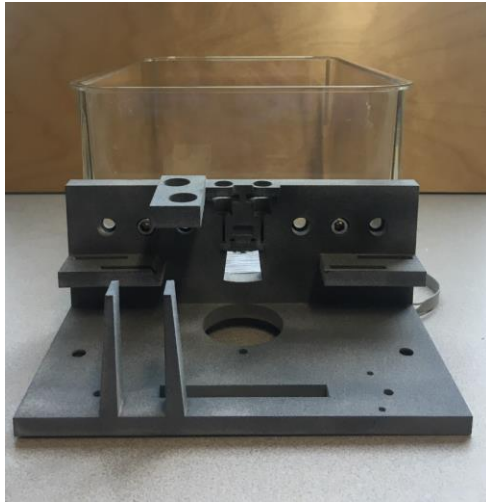

Fig.4.4
- Align the custom 3D-printed **headport** and the **weighting stage** assembled above against one side of the **home-cage**. According to the positions of the headport, drill two holes (7 mm) and one opening (30mm x 30mm). The headport should be attached to the home-cage such that the lower edge of the home-cage opening is trimmed with the weighting stage and the lower edge of the headport opening is a bit higher than the weighting stage (Fig.4.4).